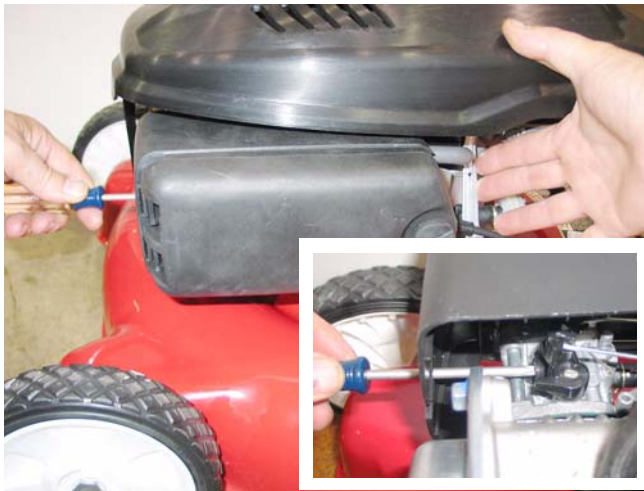

Figure 5.5
- 5.5. **Idle speed:** If applicable, is 1,800 RPM  $\pm$  160 RPM, set using throttle stop screw. See Figure 5.5.